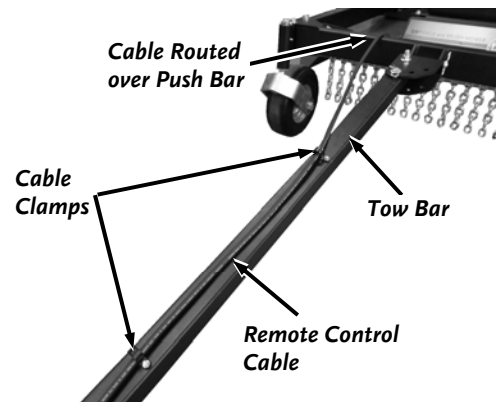

Figure 24
2. Pull the Remote Control Cable from the Cable Clamps (**Figure 24**).
7. Install the Cable Clamps to the top of the Tow Bar using a 5/16" Nut Driver (**Figure 24**).